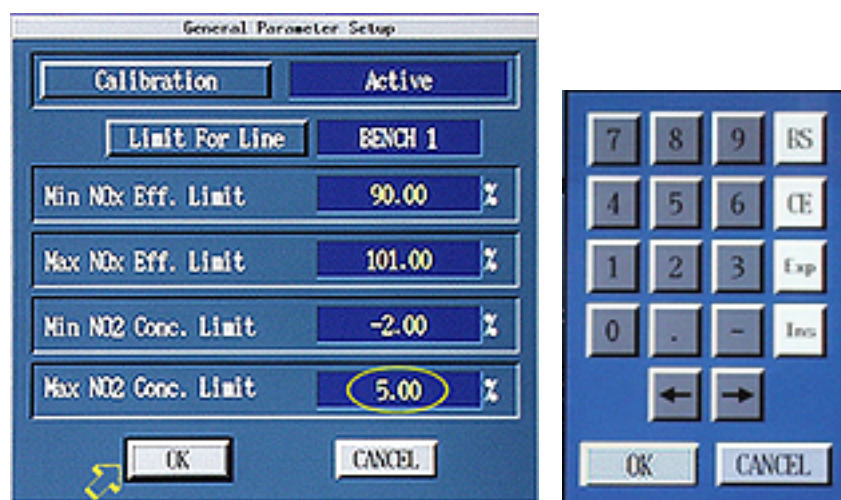

Figure 14
- 120 Verify that the yellow field for “Max NO2 Conc. Limit” label displays “5.00.” If it doesn’t, click in the field. See the circle in Figure 14. Use the on-screen keypad to enter “5.00.” On the keypad, click on “OK.” On the "General Parameter Setup" panel, click on "OK." See the arrow in Figure 14.